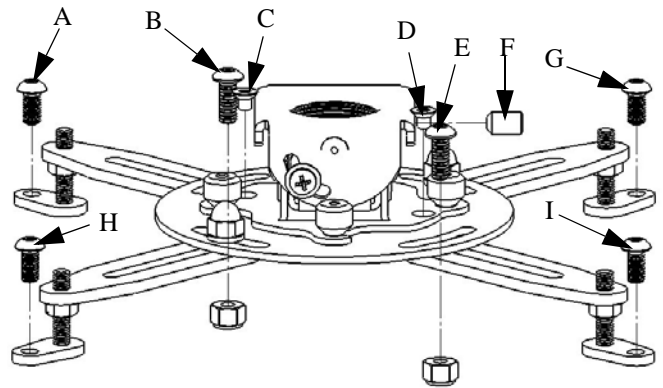

Figure 10. Remove and Replace Screws and Set Screw For UPA-1000
1. For model UPA-1000, remove 9 screws (A through I) (see Figure 10).